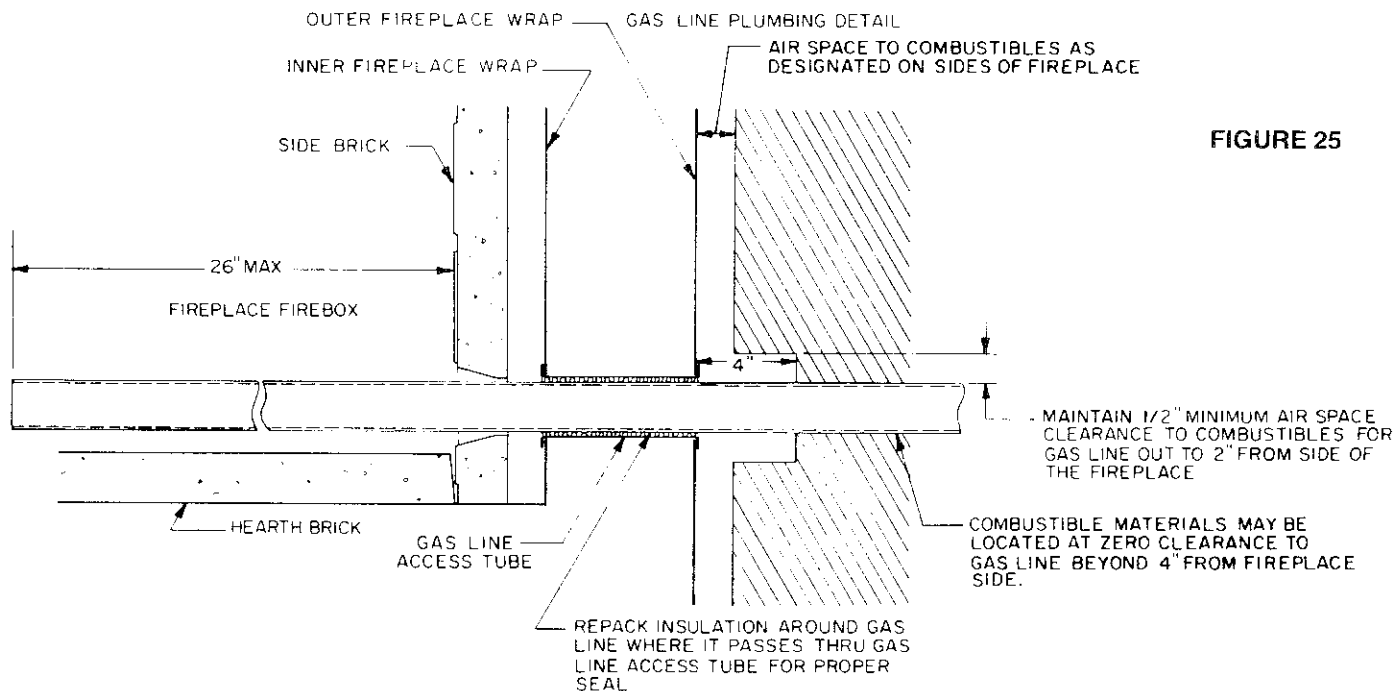

FIGURE 25
1. Remove the firebox right side liner from the fireplace by removing the front retainer brackets and top bracket. (Refer to figure 25.)